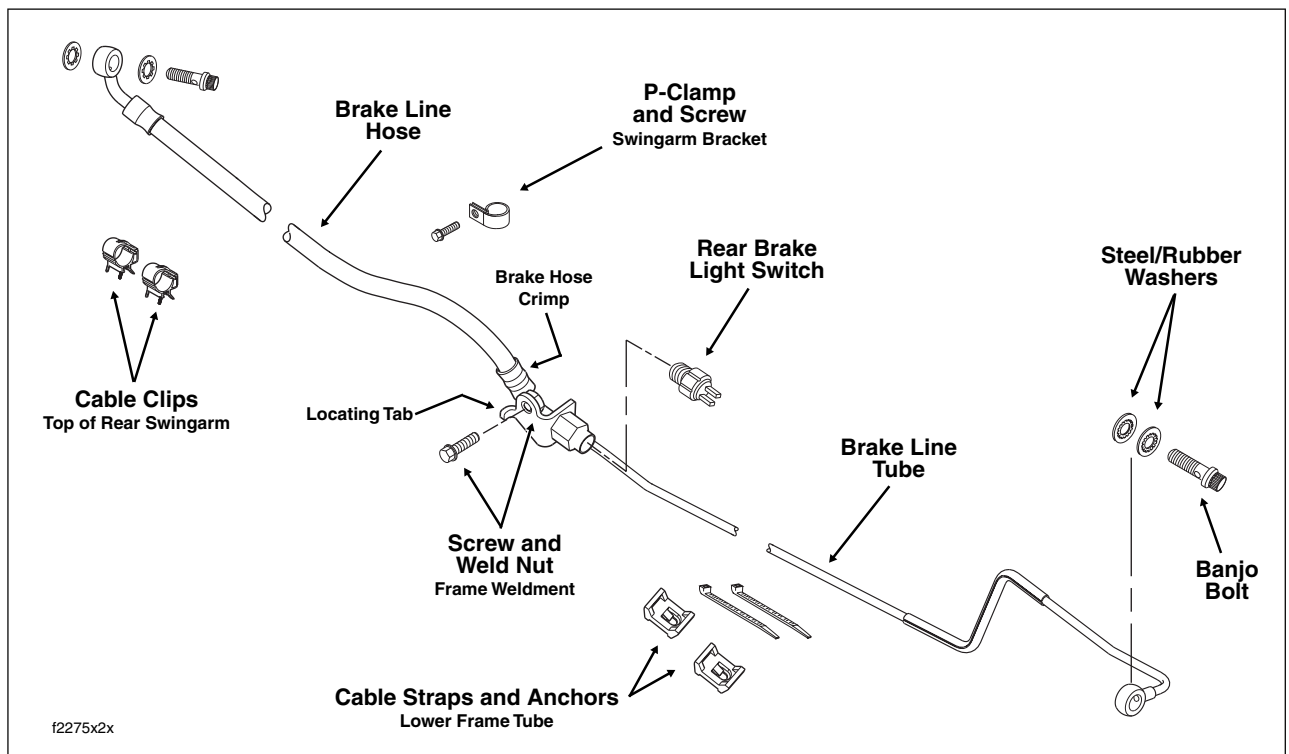

Figure 2-46. Rear Brake Line Assembly
2. Remove banjo bolt and two steel/rubber washers to disconnect brake line front fitting from master cylinder assembly. Discard washers. See Figure 2-46.